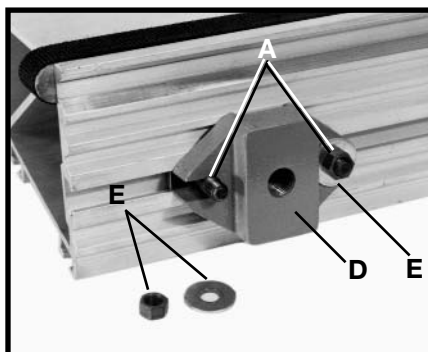

Fig. 33
2. Place mounting pad (D) Fig. 33 between two T-bolts (A) and slide T-bolts inward in slots of mounting pad (D). Fasten with two M10 flat washers and M10 hex nuts (E). **NOTE:** Loosely tighten hardware.